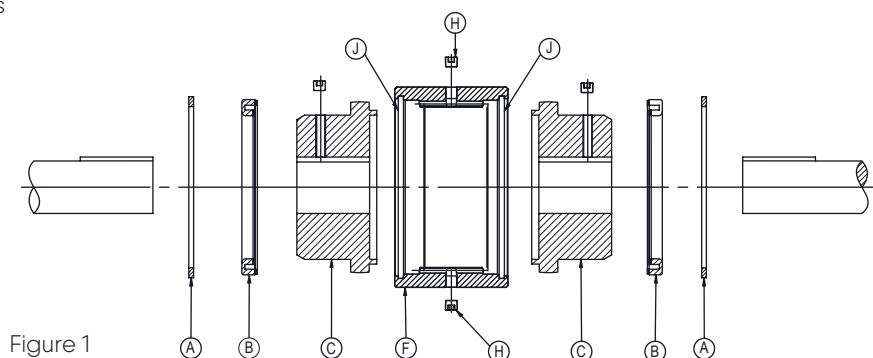

Figure 1
- 4.1.3. Install the hubs C on their respective shafts. For the assembly of the type CFS, see fig. 1 or 2. If needed, for keyway assembly, uniformly heat hubs C (max 120°C) to install them easily on the shaft, in this case, avoid any contact between the hub C and seal B. Hub faces must be flush with shaft end. In case of doubt, please consult us. Introduce setscrew on key with Loctite and tighten properly. In case of interference fit, refer to ESCO for proper instructions.
- 4.2.4. Install hubs C on their respective shafts with the longest hub end towards shaft end or towards machine bearing depending on the type (see fig. 1 and 2). If needed, uniformly heat hubs C (max 120°C) to install them easily on the shaft, in this case, avoid any contact between the hub C and O-Ring A. Hub faces must be flush with shaft ends. In case of doubt, please consult us. Introduce setscrew on key with Loctite and tighten properly. In case of interference fit, refer to ESCO for proper instructions.